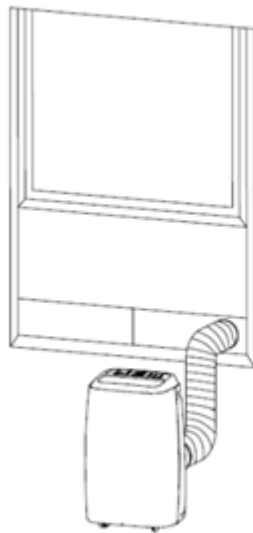
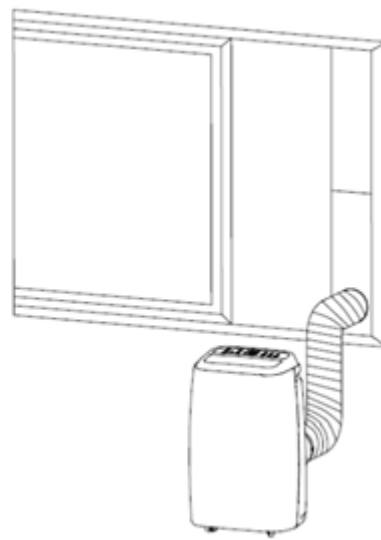

Fig 5c
Fig 5d
- 4) If using the supplied window kit Fig.5c and Fig 5d place the window kit slide plate either horizontally or vertically in the window aperture, attach exhaust hose window end connector to the window kit slide plate and adjust the window position.